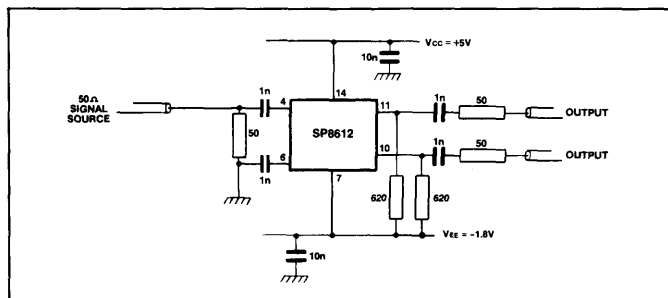

Fig.6 Operation on split supply voltages
6. These devices may be used with split supply lines by means of the circuit of Fig. 6. Some improvement in the upper frequency of operation may be obtained under these conditions, but suitable circuit layout must be employed to achieve this improvement.